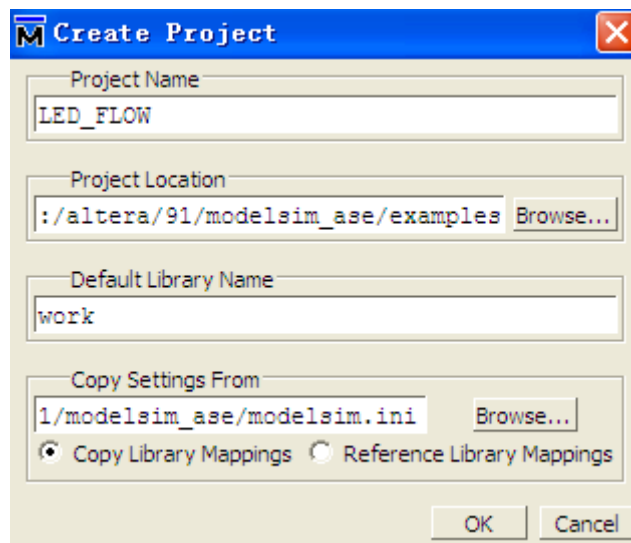

Figure 2.3 Input project information
1. Enter the following information about your project, shown in Figure 2.3: